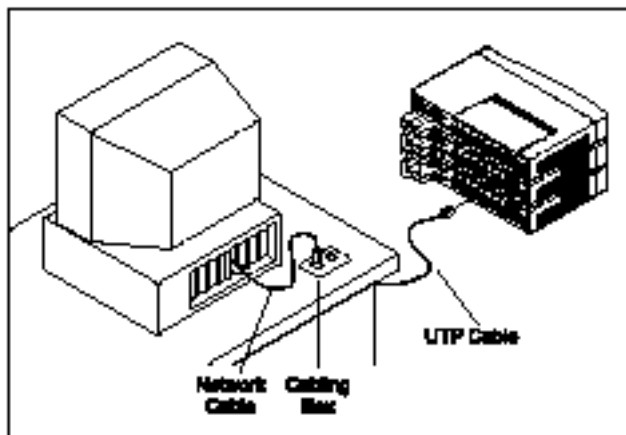

Figure 2-11 Connect UTP cable from hub to computers
2.3.3 Arrange the route for cabling if no fixed cabling box is provided. Otherwise, it's right way to connect from your computer to the fixed cabling box on your working surface and plug the other end of the cable to the RJ-45 connector on the hub, as shown in *Figure 2-11*.